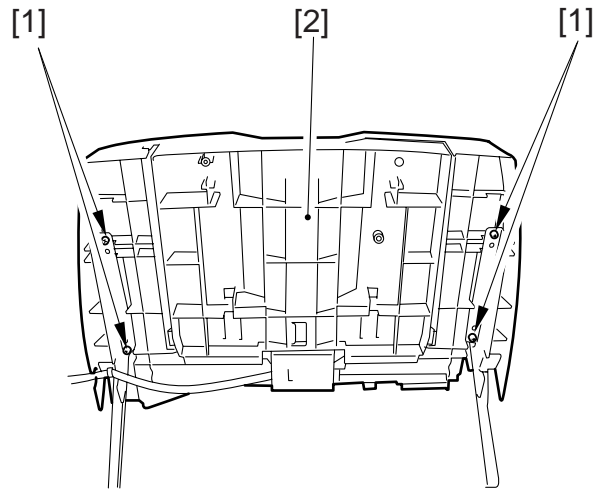

Figure 3-501
- 3) Remove the stack tray. (Figure 3-501)